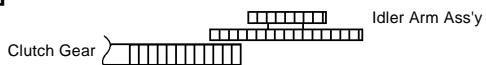

Fig. 2-8-C
## 2-8: S REEL/T REEL/IDLER ARM ASS'Y/IDLER GEAR (Refer to Fig. 2-8-A)
4. Do not touch section "A" of S Reel and T Reel. (Use gloves.) (Refer to Fig. 2-8-A) Touching may leave stains on section "A".
1. In case of the S Reel and T Reel installation, check if the correct parts are installed. (Refer to Fig. 2-8-B)
2. In case of the Idler Arm Ass'y installation, install correctly as Fig. 2-8-C. And also set it so that the section "B" of Fig. 2-8-A is placed under the Main Chassis tab.